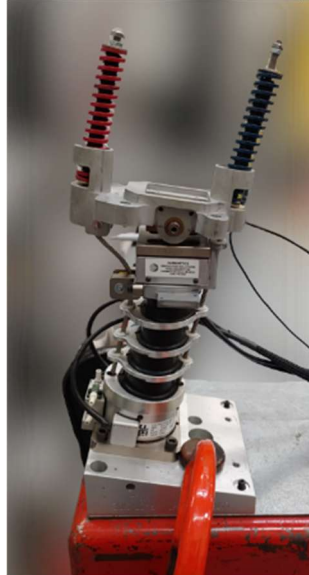

Figure 4-45. Install neck lower load cell (474-2325) to neck mounting plate. Clamp neck mounting plate to rigid, flat surface
- 4.3.17 Attach the lower neck load cell (474-2325) to the 10° neck mounting plate (TF-200-2357) with four M5 X 0.8 X 16mm SHCS. Clamp the neck mounting plate clamped to a rigid, flat horizontal surface (Figure 4-45).